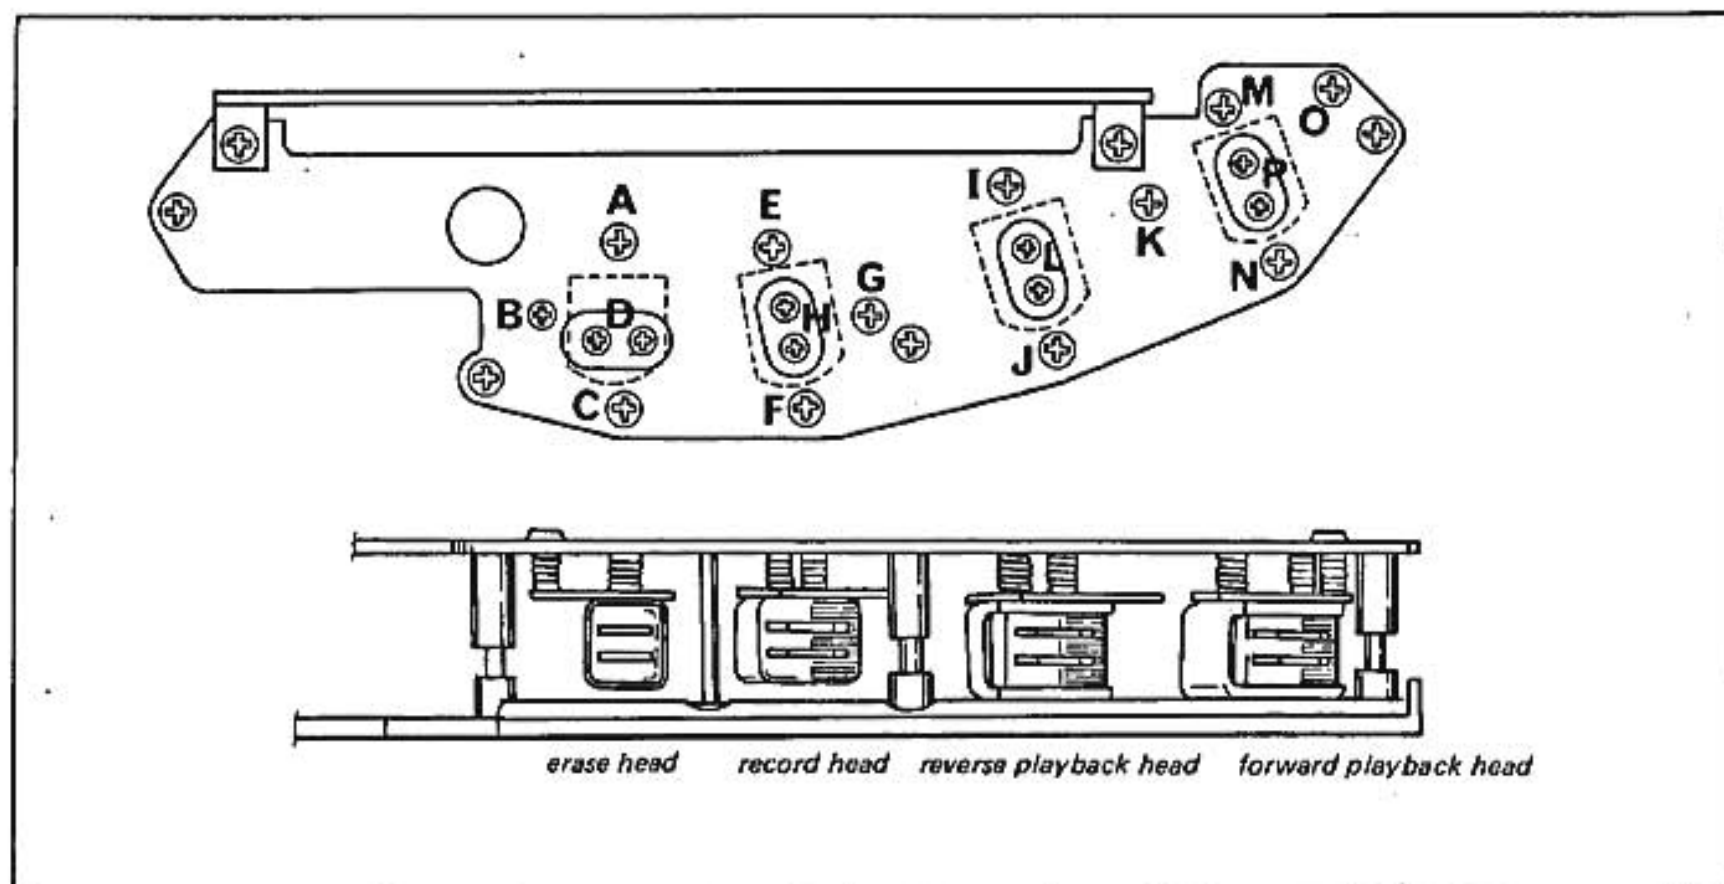

Fig. 5-6
Run a tape in the forward direction at 9.5 cm/sec (3 ¾ ips). Adjust the screws shown in Fig. 5-6 for the following specifications.
- 2) Untouched core spaces with tape are shown in the list of Fig. 5-7. (See Fig. 5-6 Adjusting Screws).
In the playback of 700 Hz signal, adjust M, N and O of Fig. 5-6 for maximum output at a VTVM.
In the playback of 15 kHz signal, adjust P of Fig. 5-6 for maximum output.
- 1) Perform the adjustments as in "Forward Playback Head Adjustment." Adjust I, J and K of Fig. 5-6 for tracking adjustment, and L of Fig. 5-6 for dihedral adjustment.
Adjust E, F and G of Fig. 5-6 for maximum output levels.
Change the output frequency to 15 kHz. Adjust H of Fig. 5-6, for maximum output levels.
- 3) Obtain the difference between the levels measured from the output (7 V input) and that without input signals. Adjust A, B and C of Fig. 5-6 for tracking adjustment and D of Fig. 5-6 for dihedral adjustment.